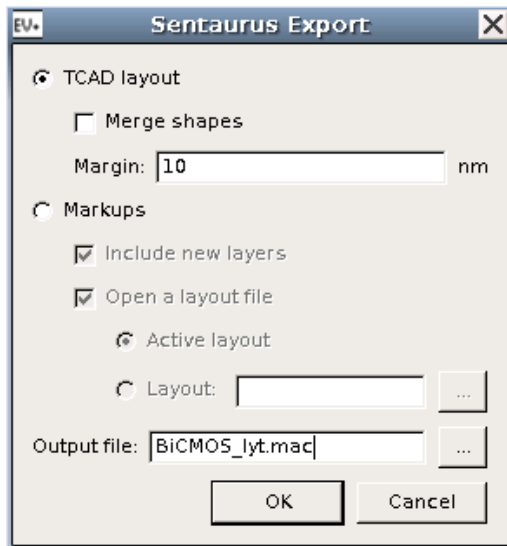

Figure 94 Sentaurus Export dialog box, showing options for saving TCAD layout file
2. In the Sentaurus Export dialog box, select the **TCAD layout** option (see Figure 94 on page 302).